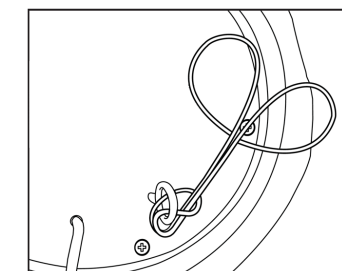

FIGURE 10
4. Pull the ends of the security cable with the loops as tight as you can until the knot around the security eyelet is tightened as shown in **Figure 10**.